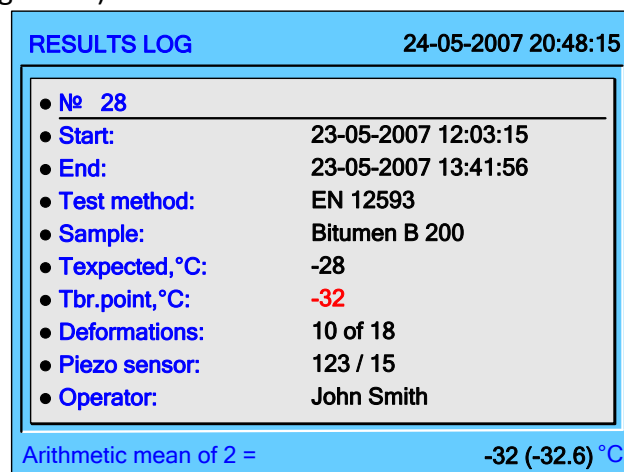

Figure 17 – Test log
4.6.2.5 To calculate the arithmetic mean, it is necessary when viewing the desired test results, mark them by pressing the «*» key. In this case, the records of the test results are marked with an asterisk in the upper line, and the arithmetic average for all marked records, rounded to 1 °C and the value in brackets, rounded to 0.1 °C is displayed in the lower part of the screen. The mark is also removed by pressing the «*» key (see figure 17).